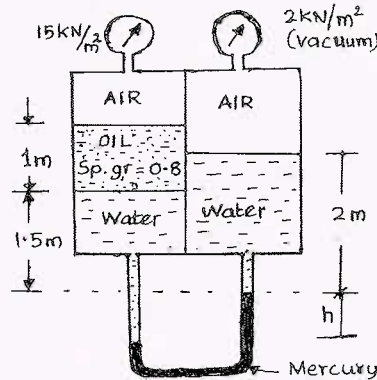

Fig.Q.1(c)
- c. Find the manometer reading 'h' for the Fig.Q.1(c) shown below. (08 Marks)